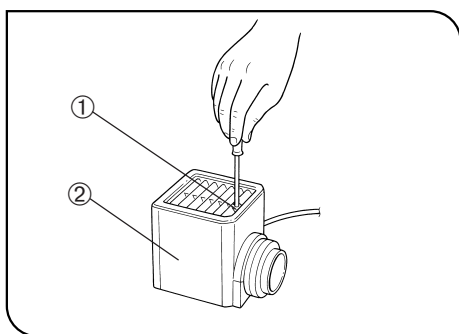

Fig. 63
2 Attaching the Halogen Bulb (Figs. 63 to 65)
(Figs. 63 to 65)
5. Fit the lamp housing from up and tighten the clamping screw ① by applying downward pressure. (Fig. 63)